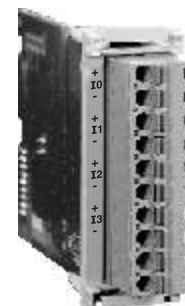

Figure 1.1 : Front view
- FL-SC-A004-I card as shown in Figure 1.1 is used as a plug-in module in Flexys series and not as an independent module.